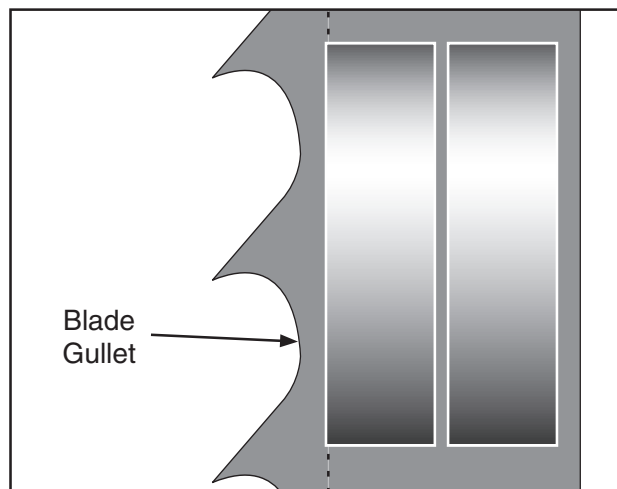

Figure 38. Lateral adjustment of blade guides.
4. Loosen the lateral adjustment rod bolt, loosen the support bearing adjustment shaft bolt, and adjust the blade guides until the edges of the bearings are $\frac{1}{16}$ " behind the blade gullets, as illustrated in **Figure 38**.